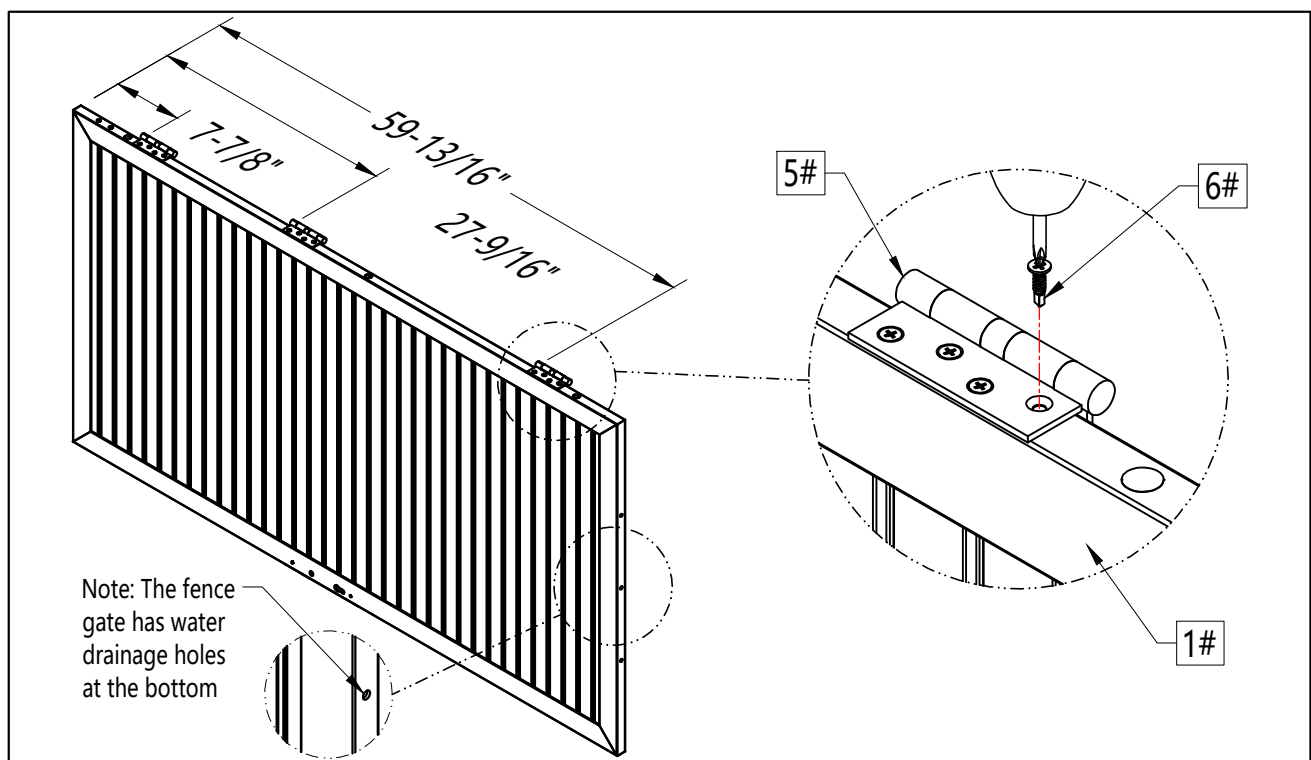

Figure 9
- 9 Measure the position of the Hinge (5#) on the Fence Gate (1#). Secure the hinge with Screws (6#), as shown in Figure 9.